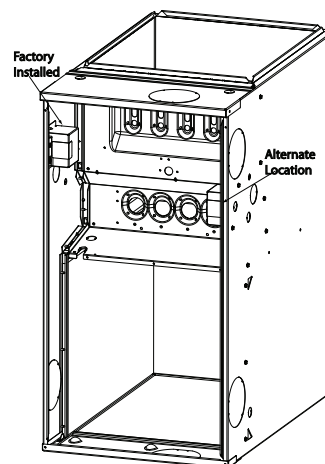

Fig. 24 - Relocating J-Box
1. Remove and save two screws holding J-Box. (See Fig. 24.)
4. Remove and save two screws holding J-Box. (See Fig. 24.)